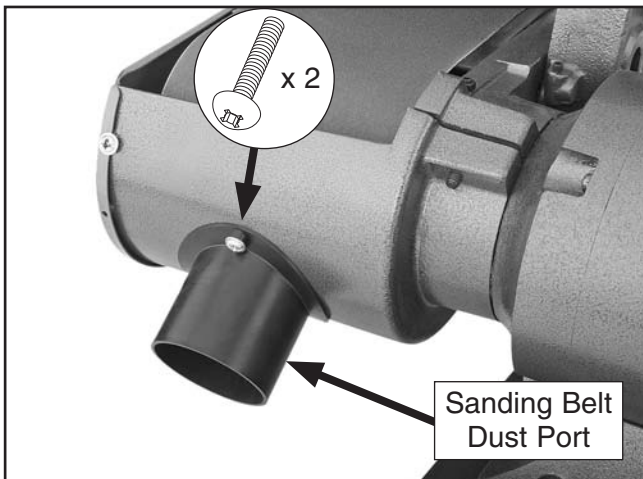

Figure 15. Sanding belt dust port attached.
- Attach the 3" dust port to the bottom of the sanding belt housing with the (2) $\frac{1}{4}$ "-20 x $\frac{1}{2}$ " Phillips head screws, as shown in **Figure 15**.